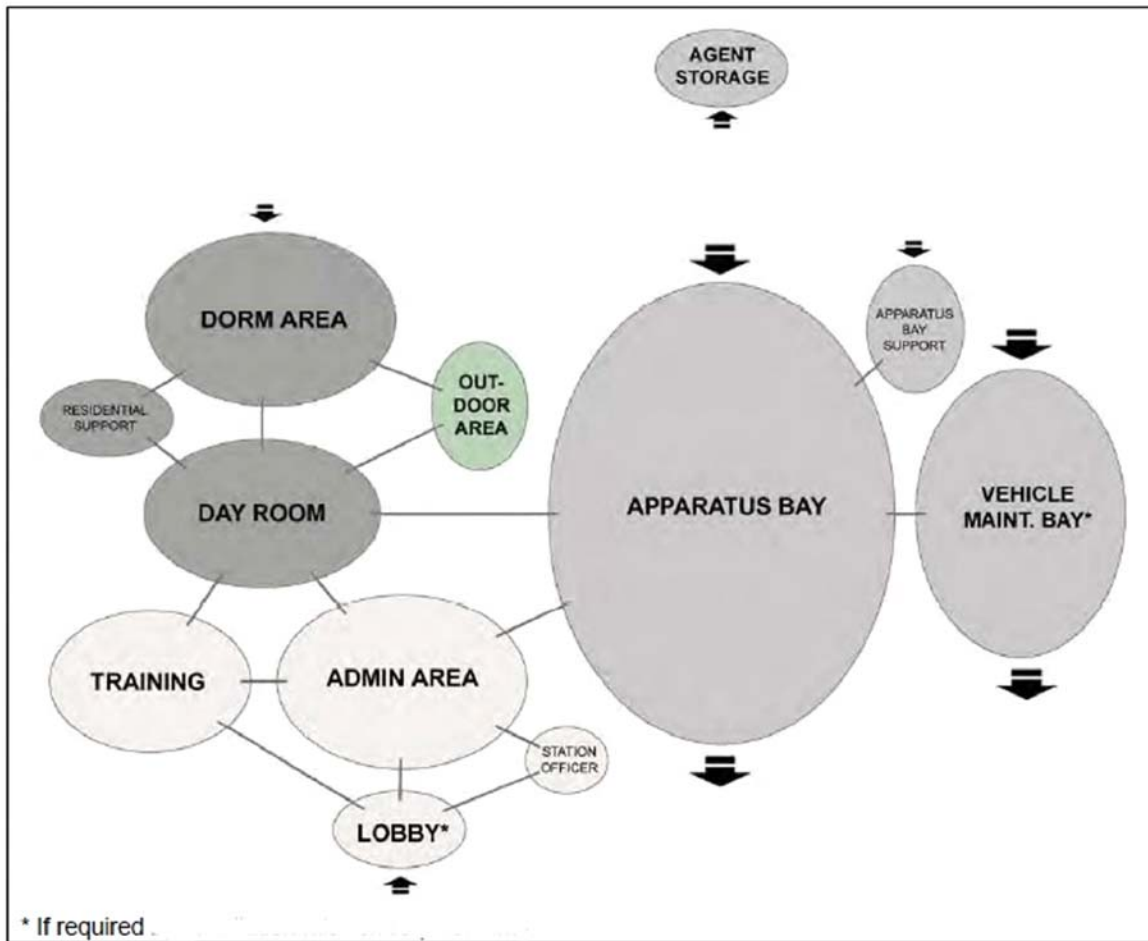
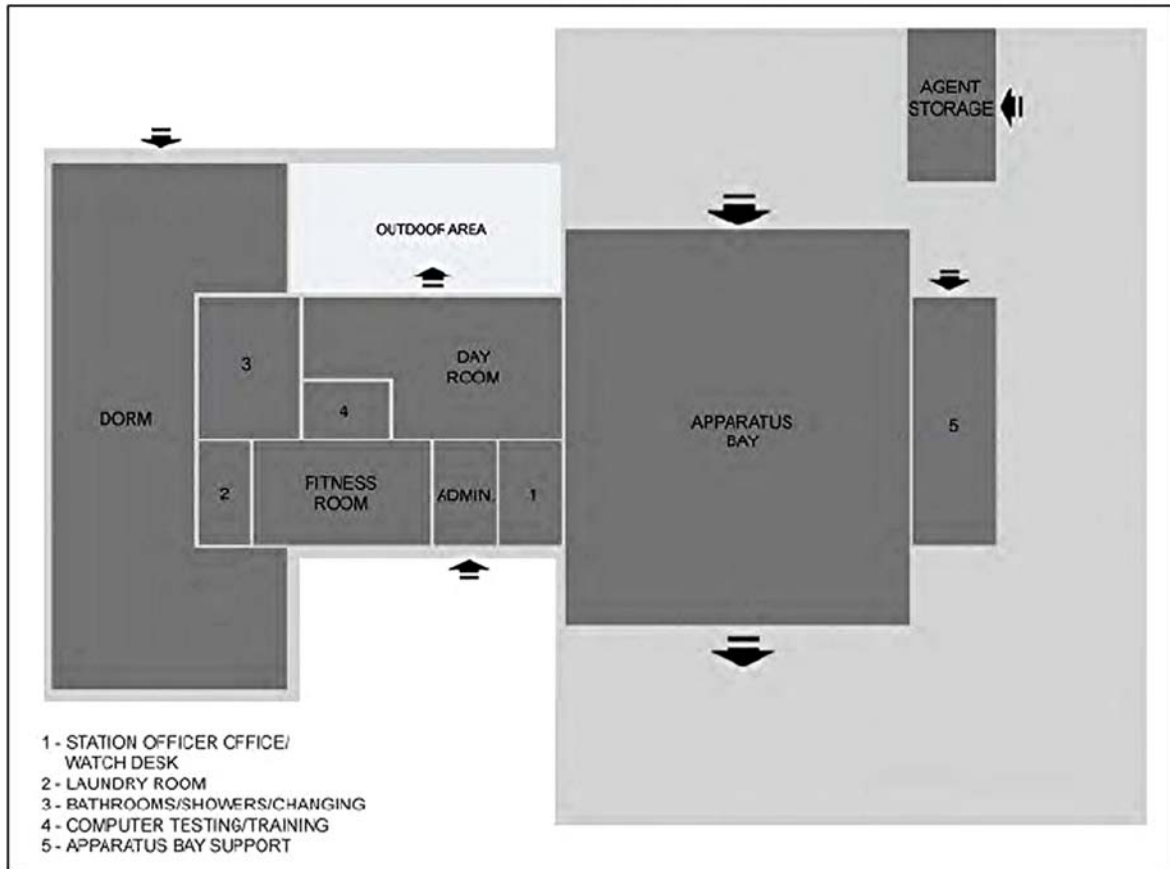

Figure 2-1
Figure 2-2
2.5.1 Functional Relationship Bubble Diagram. The bubble diagram in Figure 2-1 indicates the acceptable relative adjacencies of the functional spaces. Some of these key adjacencies may be accommodated through a hallway rather than a direct entrance/exit from one space to another. This is particularly true with the Apparatus Room and the Day Room as many facility spaces need an adjacency with these two spaces. Note that the “Apparatus Bay Support” area indicated in the diagrams includes the following spaces, some of which may not be included in every station, depending upon Installation mission requirements:
2.5.2 Illustrative Diagrams. The illustrative diagrams include Figures 2-2 through 2-4. They do not represent mandatory or even suggested layouts but are provided to expand on Figure 2-1 and illustrate the relative sizes of the functional spaces along with the acceptable adjacencies. By including the relative sizes of the spaces, these diagrams convey a possible means to accommodate the needed adjacencies.
2.5.2.1 Figure 2-2.